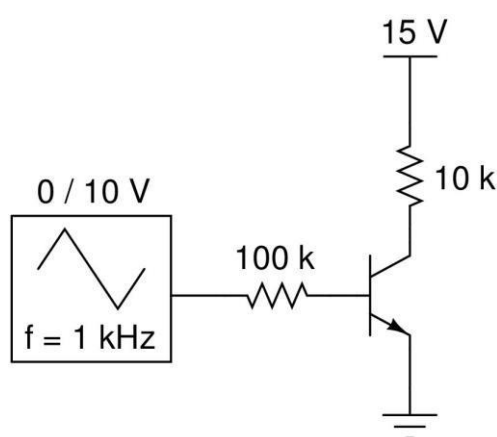

Fig. 1: Test Circuit to measure transistor β_F
The principle proposed to measure the BJT β_F is to energise the transistor using the circuit shown in Figure 1 below, where the excitation source is a relatively slow triangular waveform with peak limits adjusted to just cycle the transistor between cutoff and saturation. This will cause a fairly slow turn on and turn off process, allowing the point at which the transistor becomes saturated to be easily determined. The base and collector currents are determined by measuring the voltages across R1 and R2, and the current gain (β_F) can then be measured by dividing the collector current by the base current, for various parts of the excitation waveform.
11.4.1.1 Setup the circuit shown in figure 1, and then adjust the **upper** and **lower** triangle waveform limits using amplitude and DC offset settings in Scopy. Adjust the triangle waveform so that the BJT just goes into saturation and cut-off at the upper and lower limits of the waveform respectively. To help you with this, connect one oscilloscope channel at V_{BE} and another oscilloscope channel at V_{CE} . Record the values of your triangle waveform.